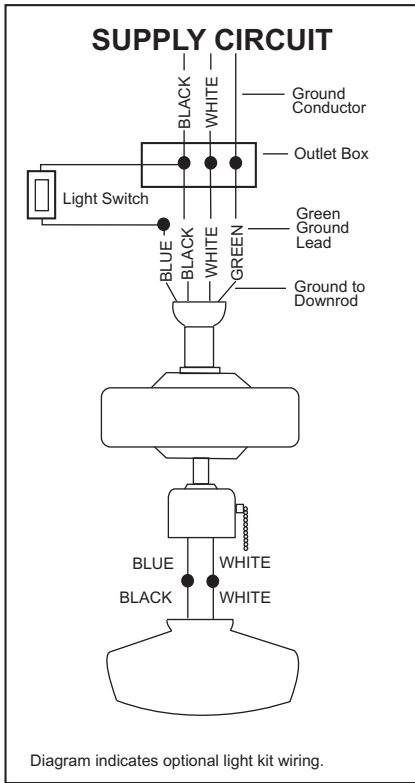
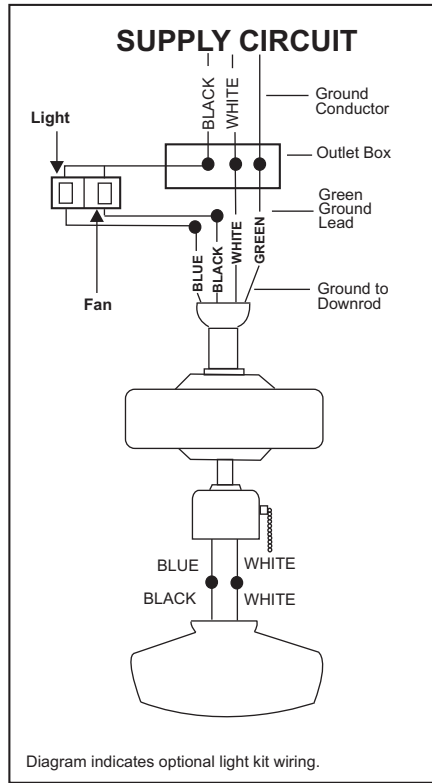

Figure 14
Figure 15
5. Turn the connecting nuts upward and push the wiring into the outlet box. Figures 14 and Figures 15 illustrate the wiring connections for optional wall control (available at your Hampton Bay Retailer, the wire color out of wall control may vary, see wall control's installation manual for correct wire connections)